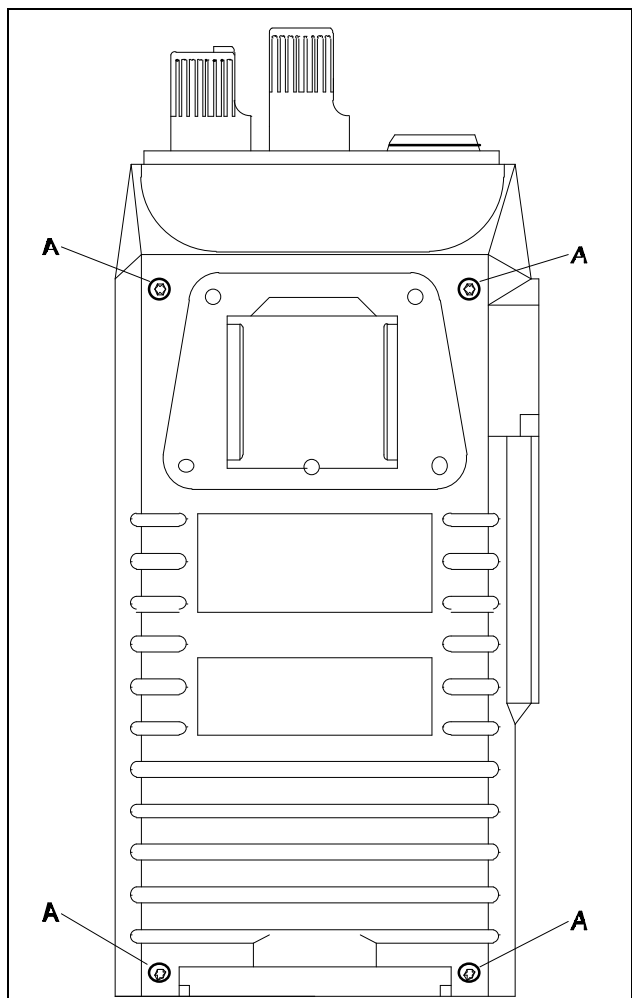

Figure 1 - Front and Rear Cover Separation
In the event internal service is required, disassemble the radio in accordance with the following outlined steps. See Figures 1 - 5.
Lay the radio face down and loosen the four (4) TORX® screws (A) on the back of the radio; complete screw removal is not necessary. See Figure 1. Separate the covers by carefully lifting the Rear Cover Assembly straight-up to avoid bending the connector pins between the RF and Control Boards.